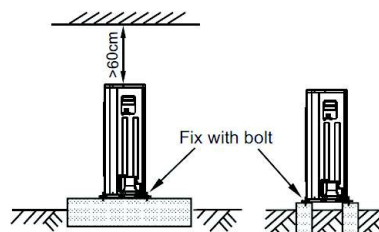

Fig.5-6
- Make concrete foundation according to the sepecifications of the outdoor units.(Refer to Fig.5-6)
- Fasten the feet of this unit with bolts firmly to prevent it from collapsing in case of earthquake or strong wind.(Refer to Fig.5-6)